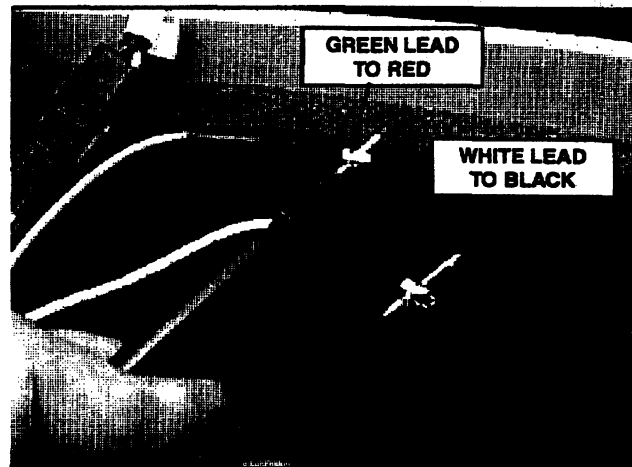

FIGURE 9.2A
3. Connect leads from meter to the Test Harness Leads and take reading from meter. See Figure 9.2A.
3. Remove cap from the Red & Black wire harness, attach test harness, connect leads from meter to Test Harness and record reading. See Figure 9.2A.